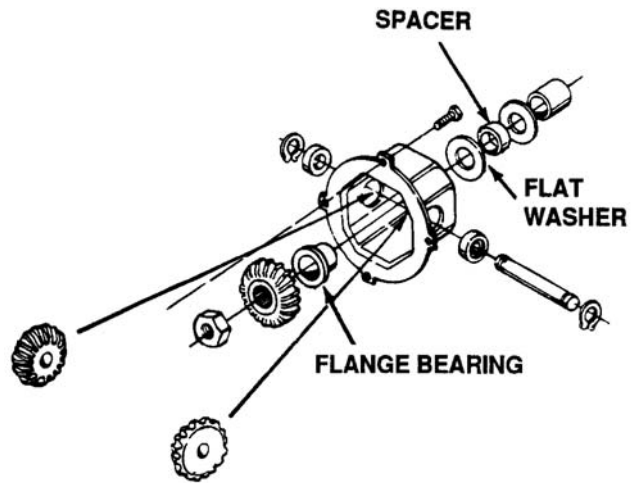

Figure 6-4. Differential Housing Assembly
4. The material used prior to 1991 was low carbon steel and has been changed to high strength low alloy steel. The embossing was removed and a spacer and flat washer installed for proper axle and housing equipment. Also, the bronze bearing used in the differential housing assembly has been changed to an iron flange bearing. See Figure 6-4.